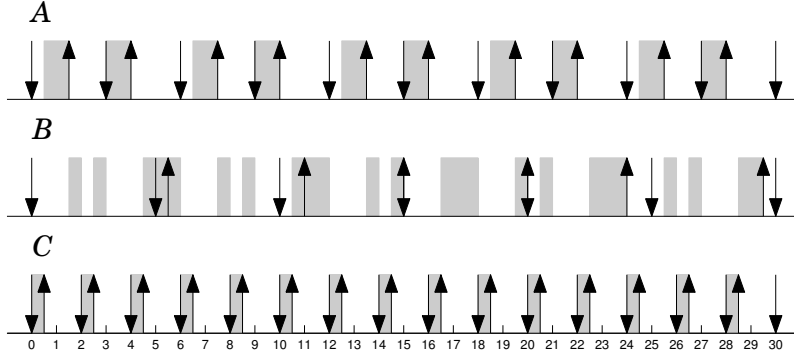

Figure 1 The execution trace resulting from rate monotonic scheduling.
- c.** The schedule is shown in Figure 1.